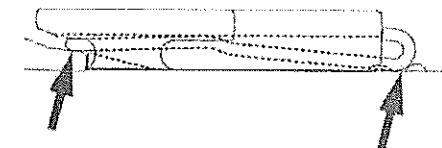

Fig. 56-Correct position of IFAST spring
20. Check the position of the spring. The toe of the IFAST spring has to be on the stock rail foot, the rear end needs to be secured by the embossment, Fig. 56